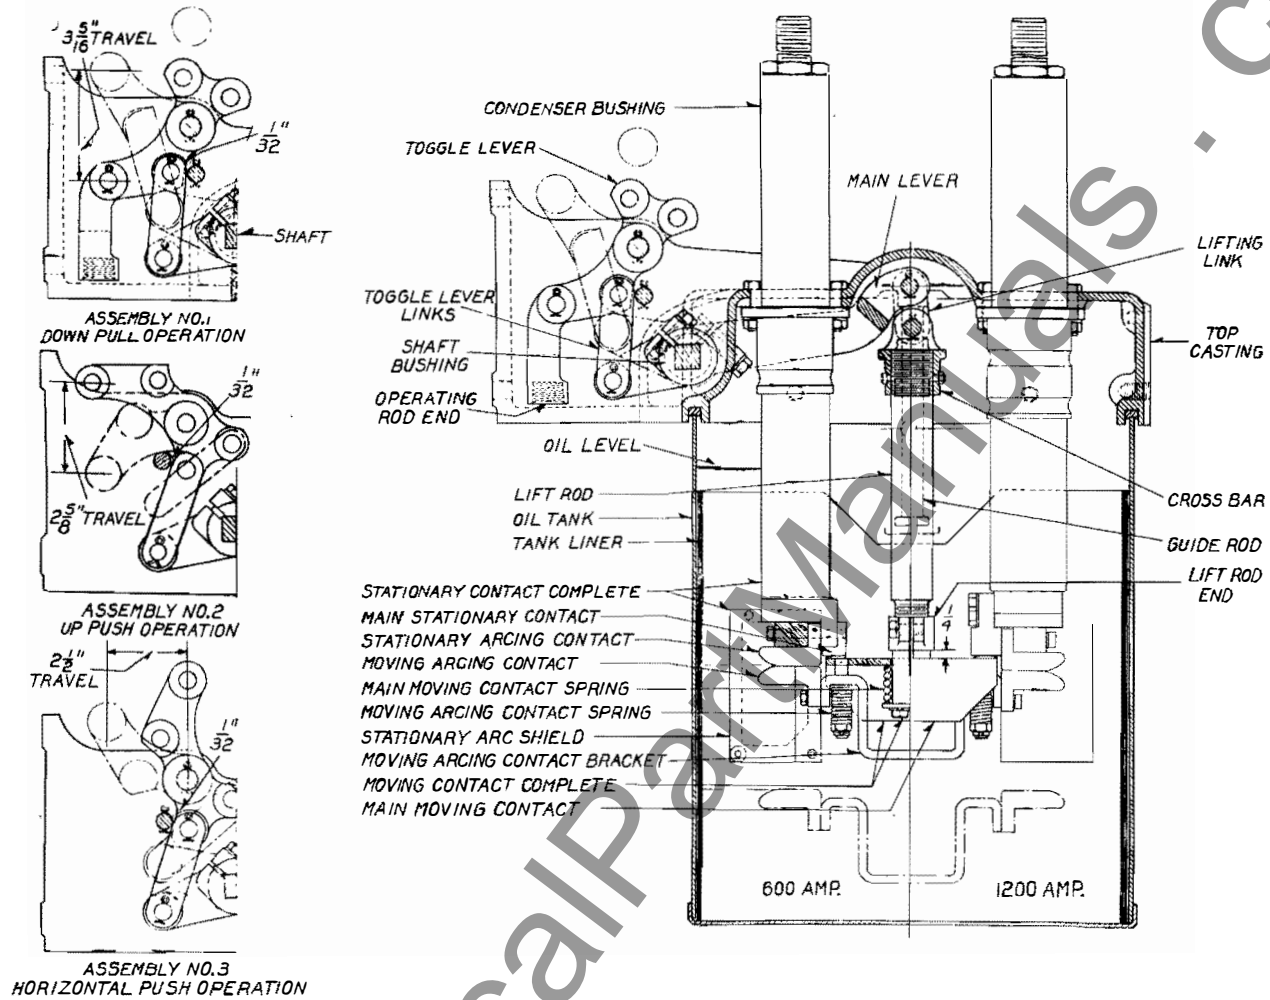

FIG. 3—BREAKER POLE UNIT—SIDE VIEW—CROSS SECTION
**Breaker Mechanisms**—The toggle mechanism is designed for reversible operation, so that the direction of operation can be changed by a simple change in the position of the toggle lever and toggle lever links. Three assemblies are shown in Fig. 3. To change from one direction of operation to the other the toggle lever and links are assembled as shown. The clearance between the operating links and the stop pin should be approximately  $\frac{1}{32}$ -inch in either case, when the contacts are in full contact.
The breakers are assembled for "up push" operation as standard (assem. 2). See Fig. 3. For remote manual operation reverse the toggle for "down pull" operation (assem. 1). Check the  $\frac{1}{4}$ -inch contact dimension described under "Contacts", and adjust if necessary.
Two guide rods, Figs. 3 and 4, are used to align the moving contacts and guide the contacts for straight line motion. The cross bar must move up and down freely on these rods. The lower end of the guide rods and the lower surface of the moving cross bar cooperate to form hydraulic bumpers. No adjustment is necessary, other than to be sure the moving contacts open to the full position. **Do not operate the breaker excessively without oil.**
**Contacts**—The contact arrangement is shown in Fig. 3. The main and arcing contacts are both of the butt type, the  $\frac{3}{4}$ -inch lead of the arcing contacts being maintained by the thickness of copper on the arcing tips, while the contact pressure on the main contacts is obtained by a compression spring. With the breaker closed the main contact should be  $\frac{1}{4}$ -inch below the shoulder on the lift rod end. If necessary to adjust, the moving arcing contacts together with connecting bracket should be removed, the lift rod end loosened and the contact assembly screwed up or down as necessary.
FOR ILLUSTRATION OF PARTS SEE FIGURE 3